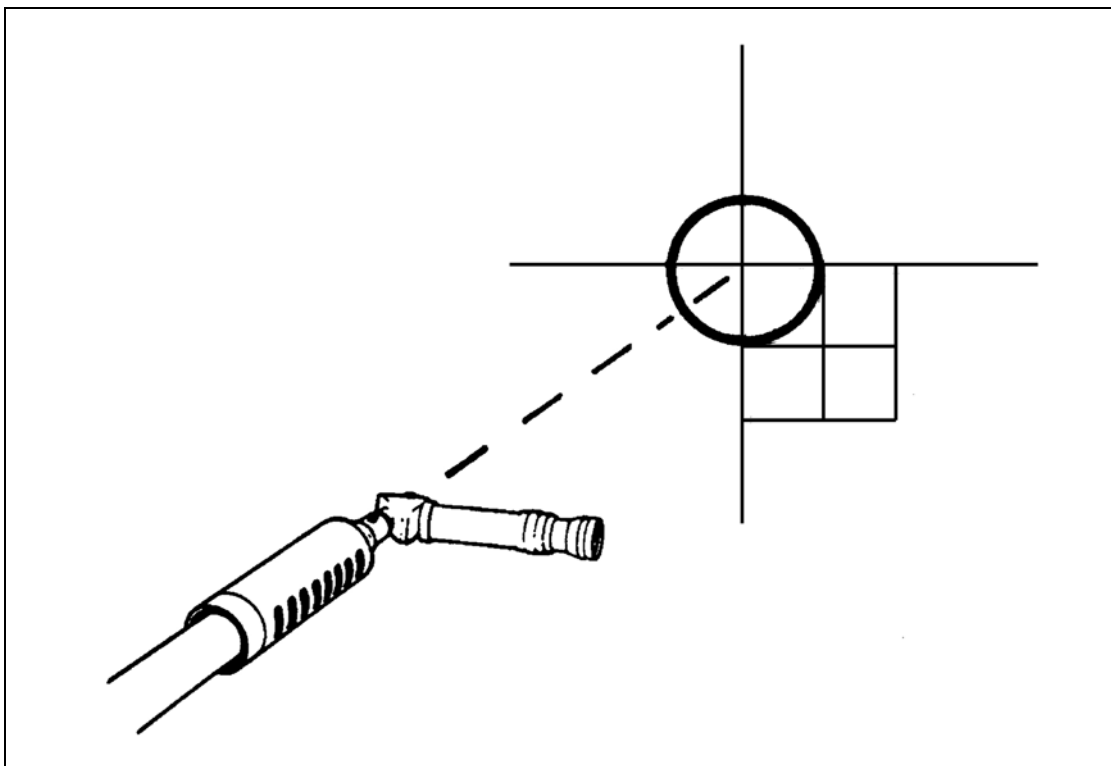

Figure B-8. Telescope reticle aimed at a corner of boresight panel.
- (1) Focus the telescope reticle using the reticle-focus ring.
- (2) Focus on the target using the target objective-focus ring.
- (3) Rotate the telescope so that the eyepiece faces right. If when you rotate the telescope it slips in the adapter, hold both so that it does not.
- (4) Tell the gunner to lay the gun so that the telescope reticle aims at a target with a corner such as a boresight panel or building. Figure B-8, page B-8, shows an 8-foot-square boresight panel at 1,200 meters.